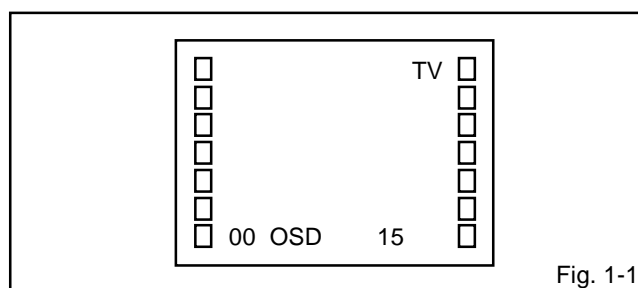

Fig. 1-1
Press the VOL. DOWN button on the set and the Channel button (9) on the remote control for more than 1 second to appear the adjustment mode on the screen as shown in **Fig. 1-1**.
4. Activate the adjustment mode display of **Fig. 1-1** and press the channel button (02) on the remote control to select "RF AGC DELAY".
3. Activate the adjustment mode display of **Fig. 1-1** and press the channel button (01) on the remote control to select "CUT OFF".
4. Activate the adjustment mode display of **Fig. 1-1** and press the channel button (10) on the remote control to select "R.BIAS".
3. Activate the adjustment mode display of **Fig. 1-1** and press the channel button (16) on the remote control to select "TINT".